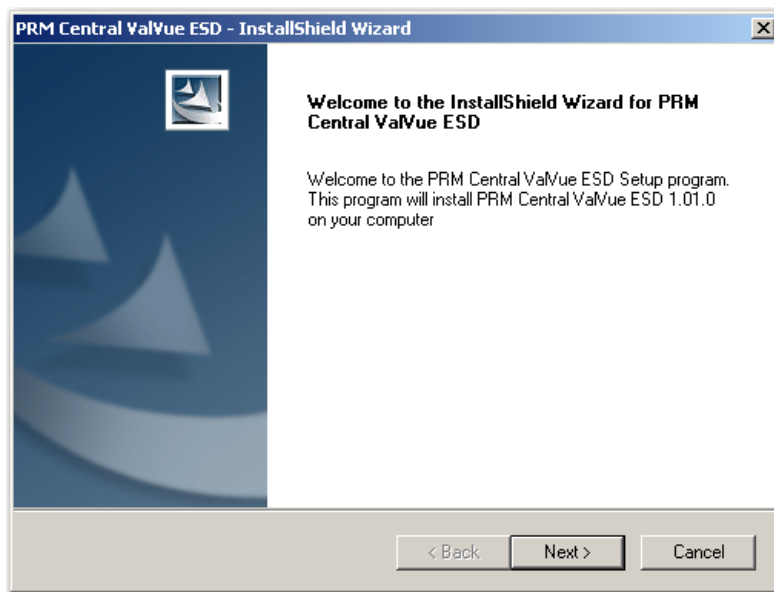

Figure 7 - Install Shield Central Server
2. Right-click on the downloaded *central_valvue_ESD.exe* and select **Run as Administrator** and *Figure 7* appears.